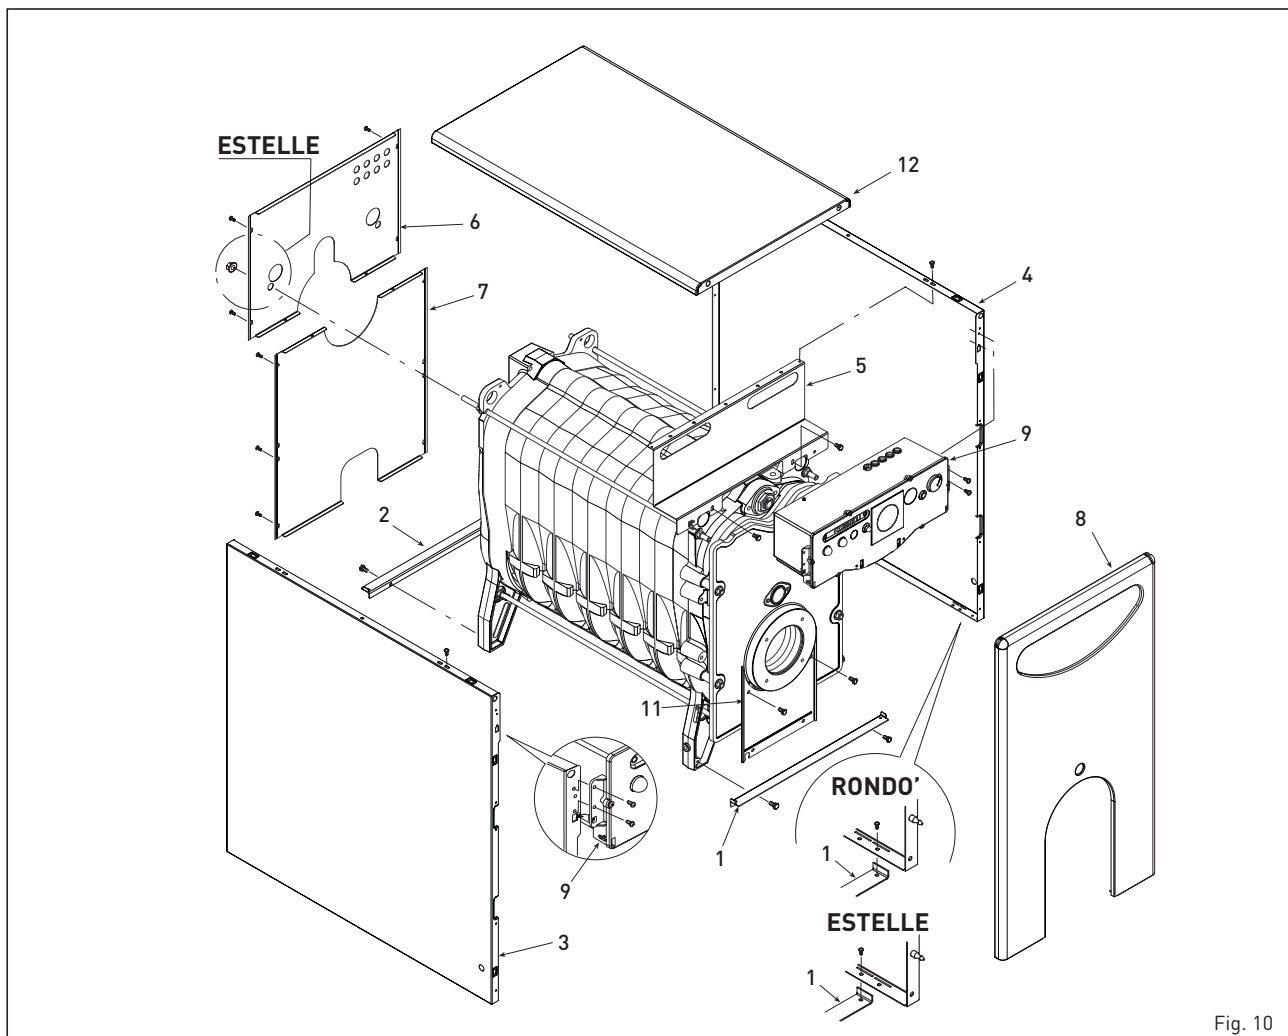

Fig. 10
3.3.3 Disassembly of the casing (fig. 10)
proceed as follows (fig. 10):